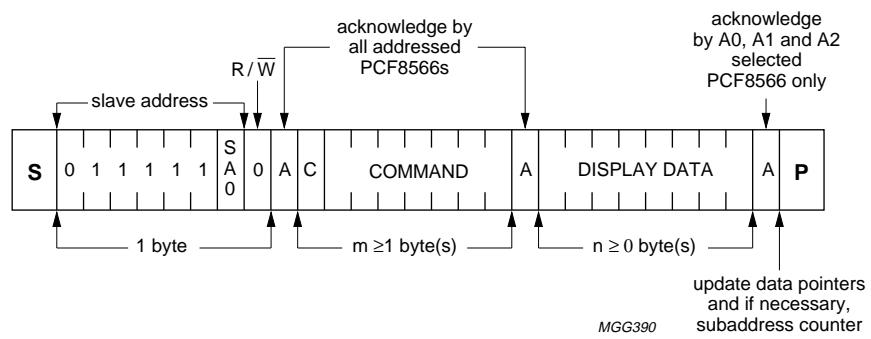

Fig.15 I2C-bus protocol.
The I2C-bus protocol is shown in Fig.15. The sequence is initiated with a START condition (S) from the I2C-bus master which is followed by one of the two PCF8566 slave addresses available. All PCF8566s with the corresponding SA0 level acknowledge in parallel the slave address but all PCF8566s with the alternative SA0 level ignore the whole I2C-bus transfer. After acknowledgement, one or more command bytes (m) follow which define the status of the addressed PCF8566s. The last command byte is tagged with a cleared most-significant bit, the continuation bit C. The command bytes are also acknowledged by all addressed PCF8566s on the bus.